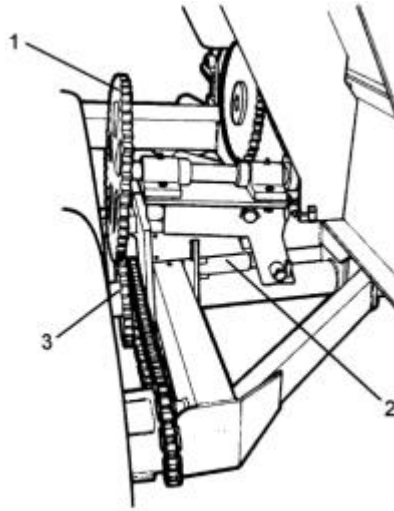

Figure 5 – 6000 Model
20. Figure 5 details the drive assembly (1) in the disengaged position. The drive is held in this position by a hydraulic cylinder (2) (Fig 5).
21. When the spinners are engaged the drive assembly (1) is lowered and connects with the gear on the drive wheels (3) (Fig 5). The power is transmitted via a drive shaft under the feed belt to the other side then back to the feed belt via two gears and a chain drive.